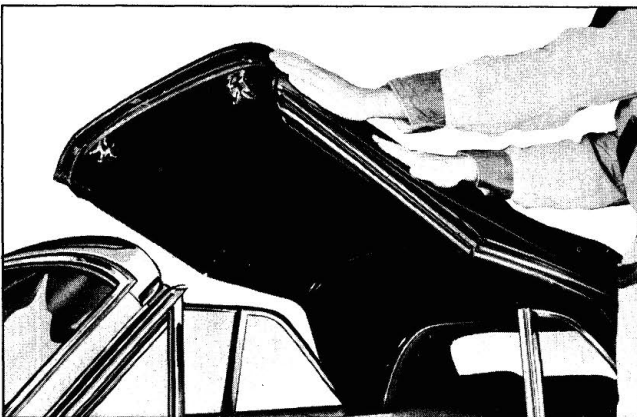

Fig. 22-18 Pressing Down on Top
C. When top is approximately 12 inches away from windshield header, place hands on top assembly as shown in Fig. 22-18 and press down on top until guide studs on lock assembly engage striker holes.